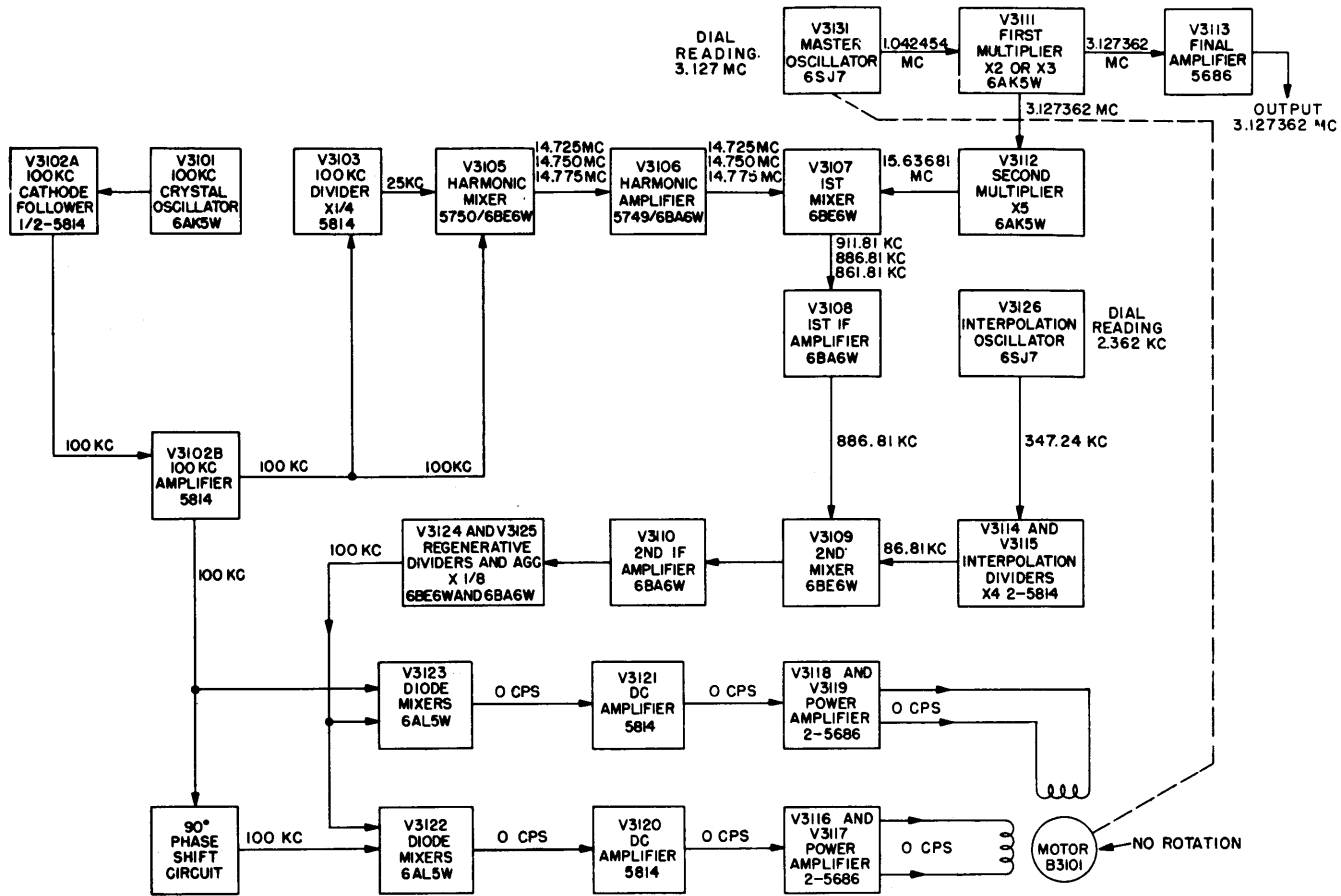
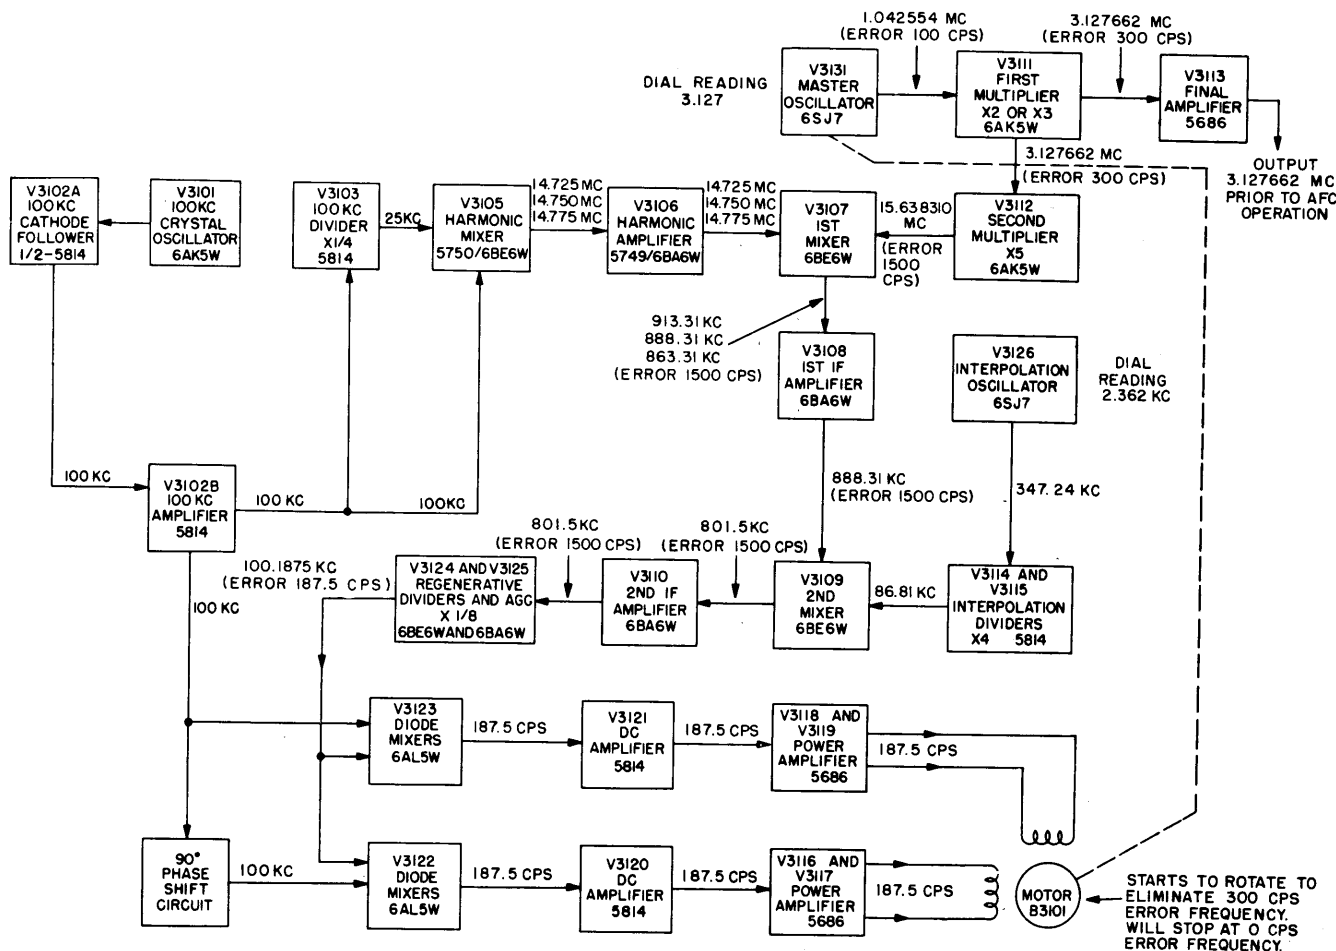

Figure 2-47. Typical Frequencies during Operation with No Error in Master Oscillator Setting, Block Diagram
Figure 2-48. Typical Frequencies during Operation with 100-Cycle Error in Master Oscillator Setting, Block Diagram
(16) TYPICAL FREQUENCIES DURING OPERATION. — Figures 2-47 and 2-48 are included to tie together, graphically, the foregoing discussion of the individual circuits. Both figures were prepared using the same output frequency (in this case, 3, 127.362 kc), but figure 2-48 assumes that the master oscillator is set up with some error.
Figure 2-47 assumes that the master oscillator is set up exactly on the desired frequency. The arrows indicating the direction of signal flow, and the numbers indicating the frequencies involved should be quite clear; however, a short explanation may be required in the case of the harmonic amplifier and the first mixer. As explained previously, a complete spectrum of frequencies, spaced 25 kc apart, is generated in the harmonic-amplifier circuit. For simplicity, however, only the frequency used in this example and
In the case shown in figure 2-47, the dial reading is 2.362 kc; therefore, the oscillator frequency is found to be:
Figure 2-48 shows the frequencies which would result if the same output frequency (3, 127.362